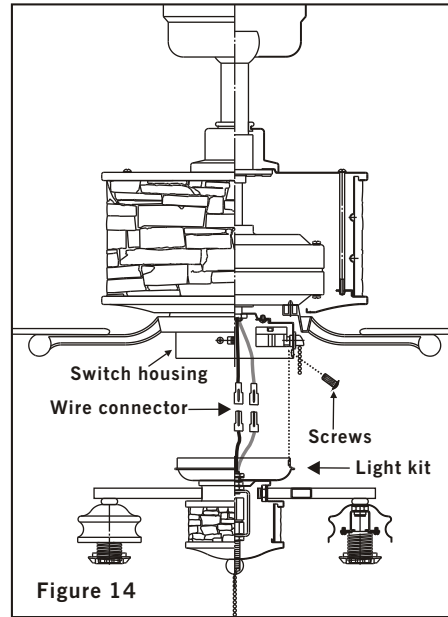

Figure 14
1. Raise and hold the light kit close to the switch housing and proceed to do the wire connections. Connect the white wire connectors from the light kit and fan, follow the same procedure with the black and blue wire connectors. (Fig. 14)
2. Carefully push all wires back into the switch housing, then install the light kit assembly onto the switch housing with 3 screws provided. Be sure to tighten all screws. (Fig. 14)